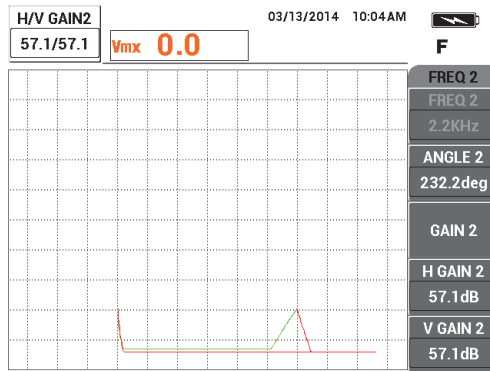

Figure 5-121 Adjusting the amplitude of the frequency 2 signal
9. Press the GAIN key (**dB**) three more times, and then decrease the amplitude of the frequency 2 signal so that it is exactly 6 divisions away from the null point (on the left side) [see Figure 5-121 on page 213].